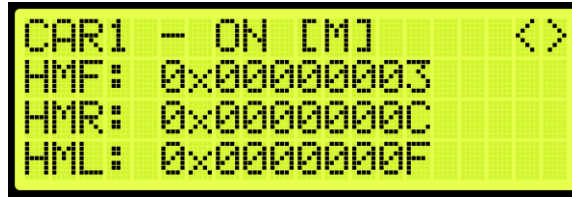

Figure 363: Hall Mask Status
3. From the Hall Mask Status (See Figure 363), press the right button.